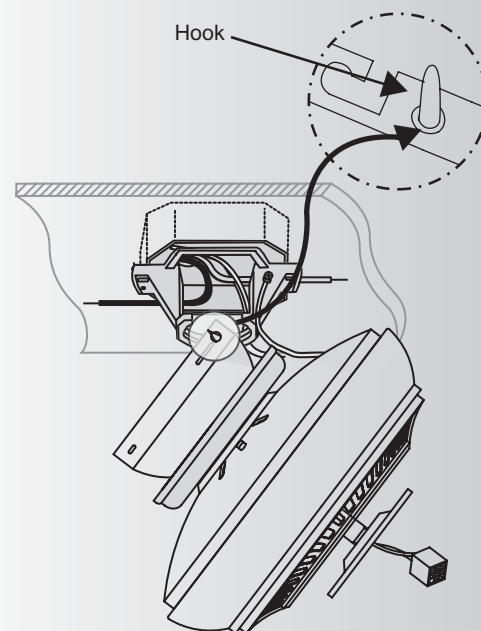

Fig. 13
7. Hang the fan on the hook of the hanger bracket. Be certain that the canopy is fully locked into hook as shown in Fig. 13.